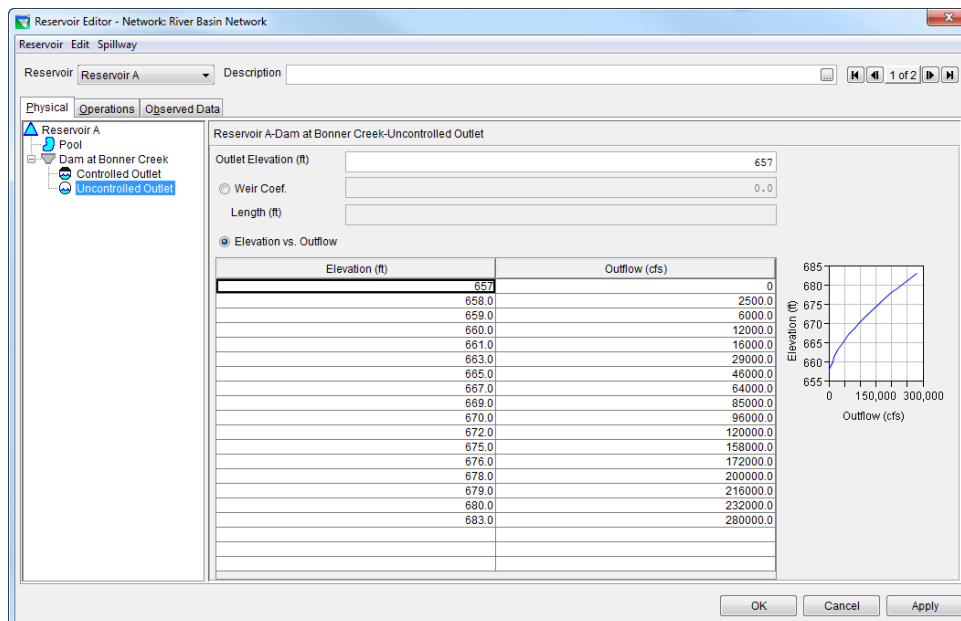

Figure 28: Reservoir Editor, Uncontrolled Outlet (Spillway)
4. The **Run Control** tab (Figure 28) allows you to specify the **Time Step** and **Flow Computation Method** to be used in your simulation(s) [Section 13.4].